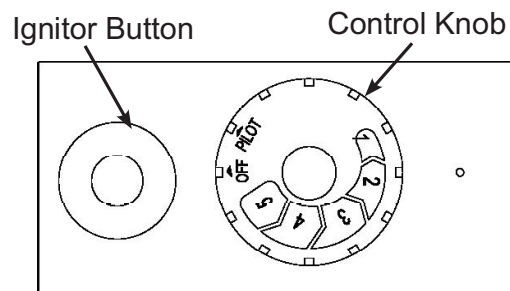

Figure 17 - Control Knob
4. Wait five (5) minutes to clear out any gas. Then smell for gas, including near the floor. If you smell gas, **STOP!** Follow "B" in the safety information, above. If you don't smell gas, go to the next step.
5. Turn control knob counterclockwise  to the PILOT position. Press in control knob for five (5) seconds (see Figure 17).